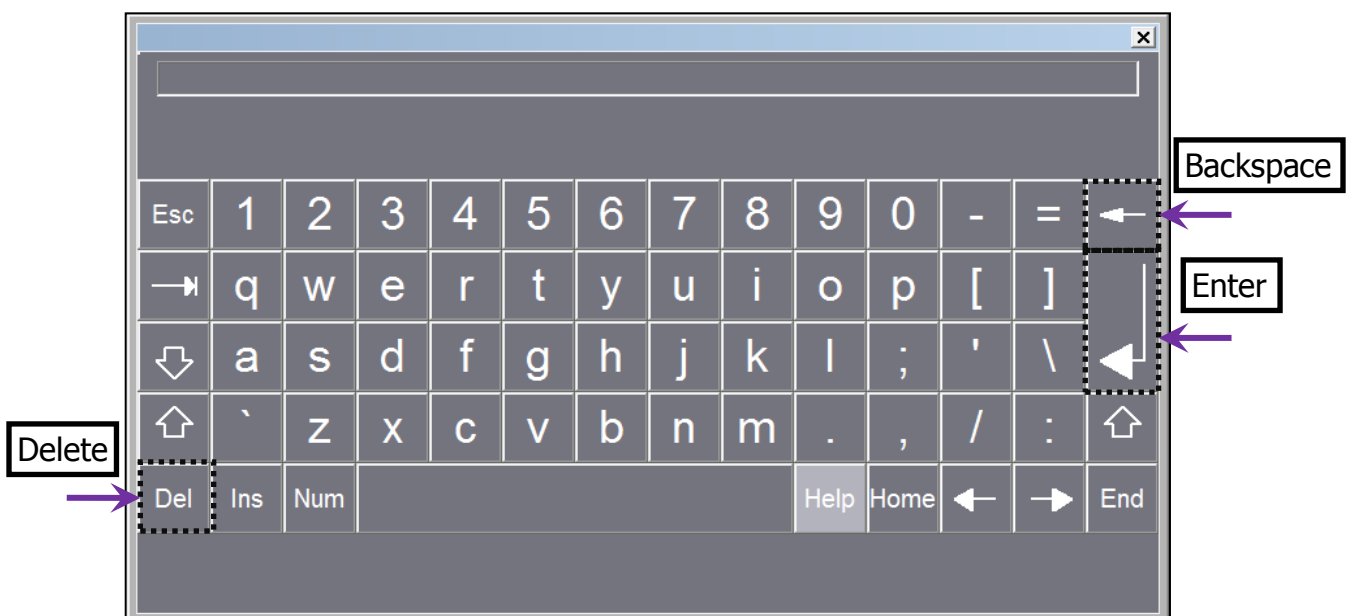

Figure 23: On-screen keyboard (with Enter, Backspace, and Delete keys marked)
3. In the *User* column, double tap the *User* field of the user that you wish to remove which will bring up the on-screen keyboard. (See Fig. 23.)